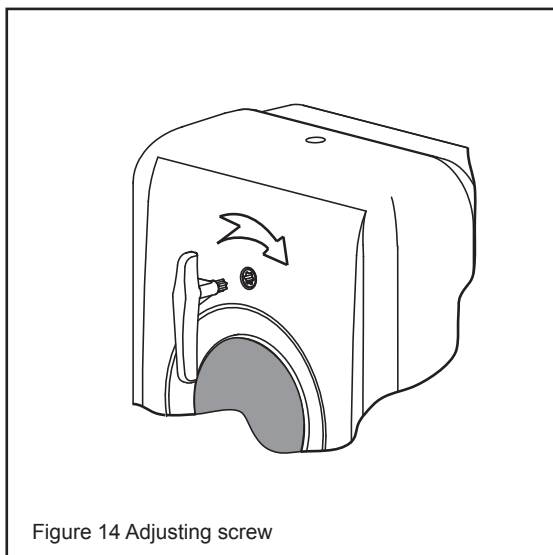

Figure 14 Adjusting screw
- 8.1 Before turning on the electricity and mains water to the hand wash, ensure the torx adjusting screw is turned fully clockwise - see figure 14.